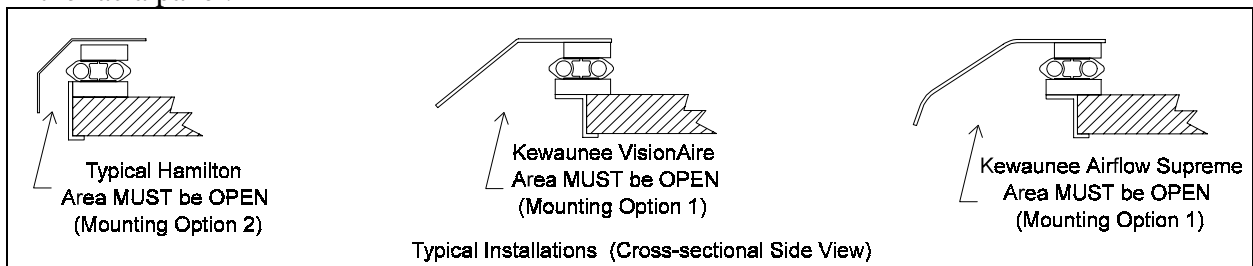

Figure 3
7. In order to determine which mounting bracket your particular installation requires, the following guidelines are offered: The rear of the Airfoil Pitot™ should not extend past the rear of the deflector vane; the front edge of the Airfoil Pitot™ should not touch the underside of the deflector vane. Before holes are drilled in the hood wall, dry fit the Airfoil Pitot™ once with each set of mounting brackets to see which will best suit your installation. See Figure 3.